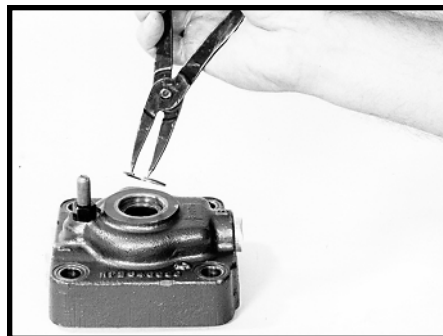

Figure 65
29. Remove the retaining ring (5). SEE FIGURE 65.